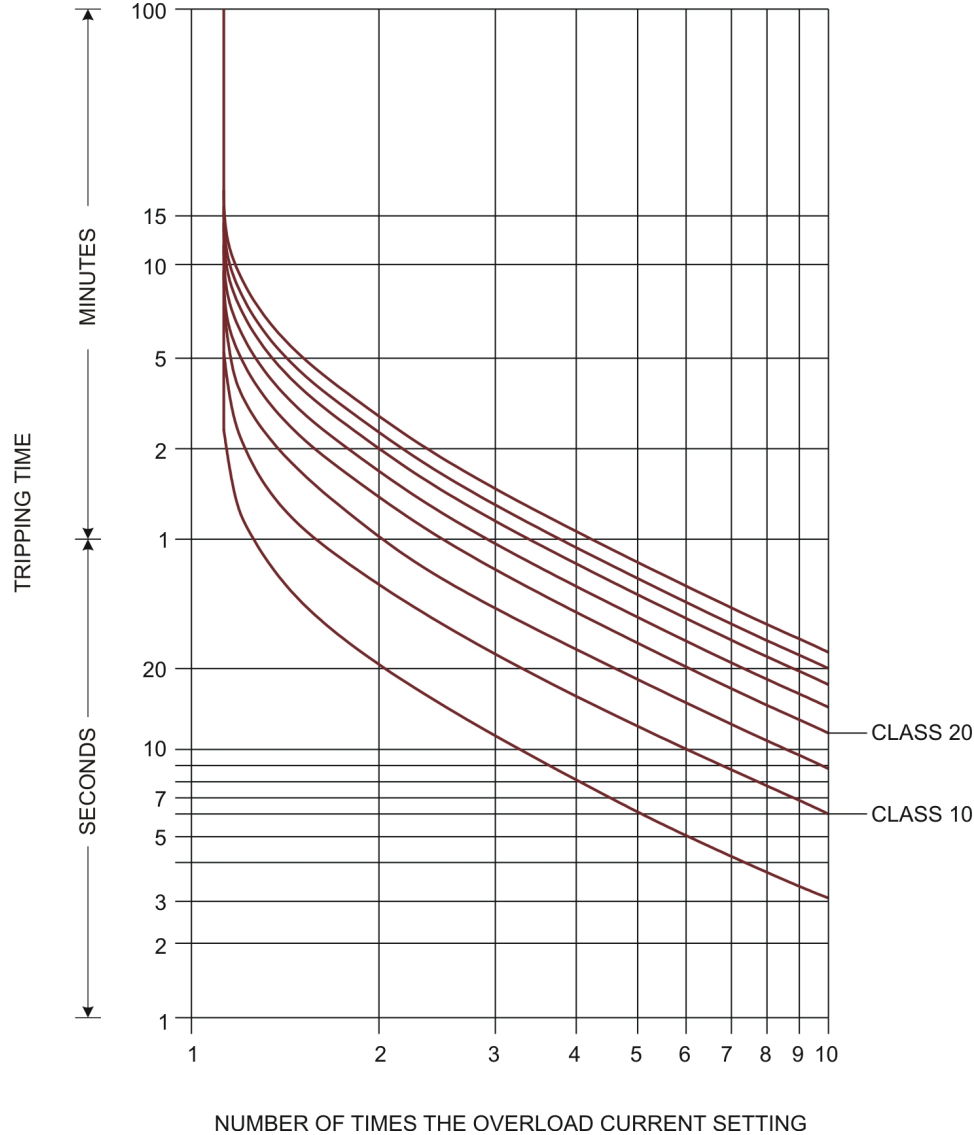
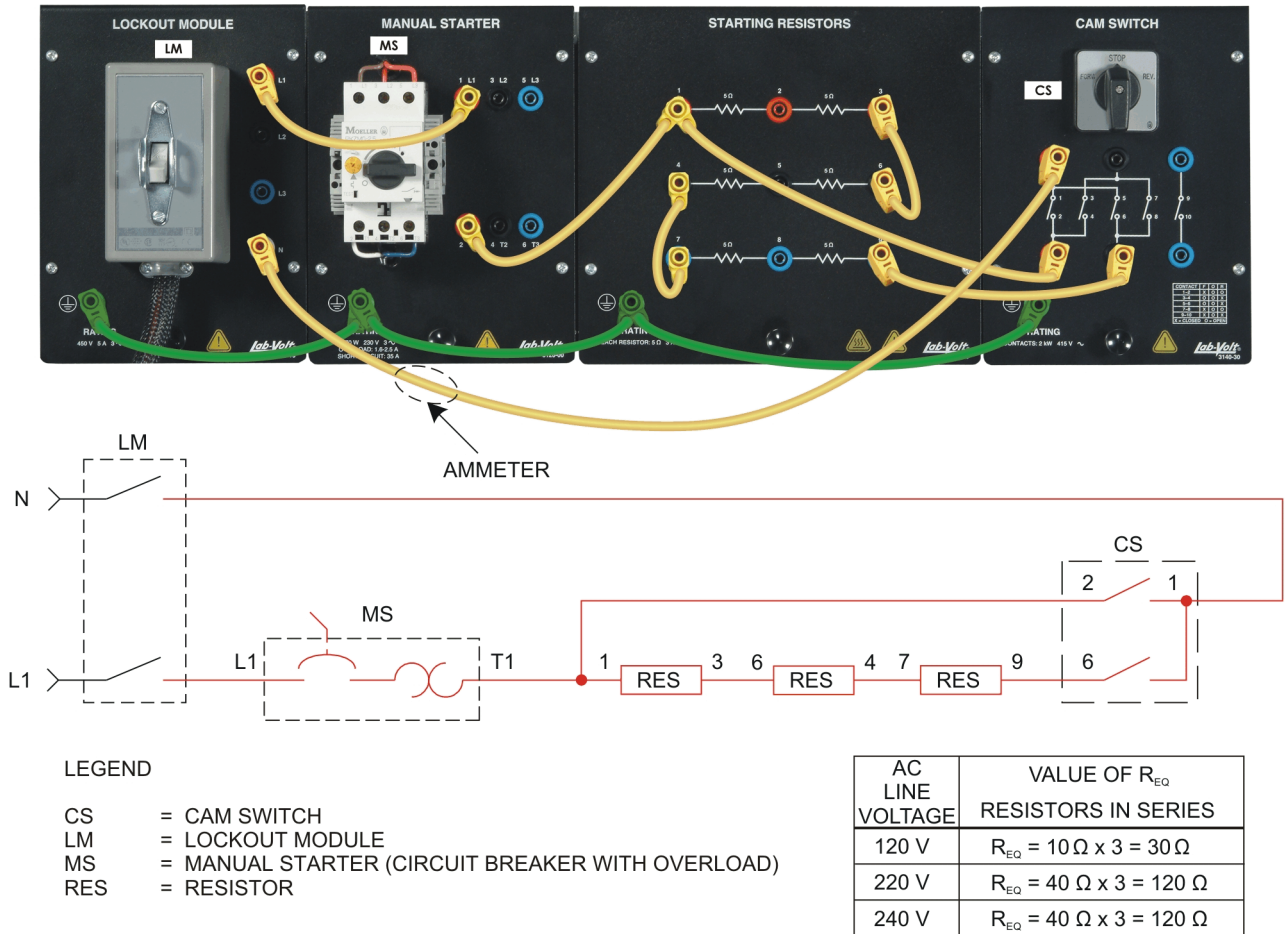

Figure 1-22. Overload classes tripping chart.
Figure 1-25. Manual Starter tripping circuit.
Figure 1-22 shows tripping time as a function of the ratio between the circuit actual current and the overload relay setting for different overload relay classes.
- 2. Connect the circuit shown in Figure 1-25.
Clamp an ammeter around a power lead as shown in Figure 1-25.
10. Referring to Figure 1-22, determine the overload class of the Manual Starter by using the tripping time and current ratio determined from the Figure 1-25 circuit.
11. Referring to Figure 1-22, at six times the overload current setting, how long should the Manual Starter take to trip?
15. Referring to Figure 1-22, how long should it take for the overload to trip, when power is applied to the circuit? Use the current ratio calculated in the previous step.